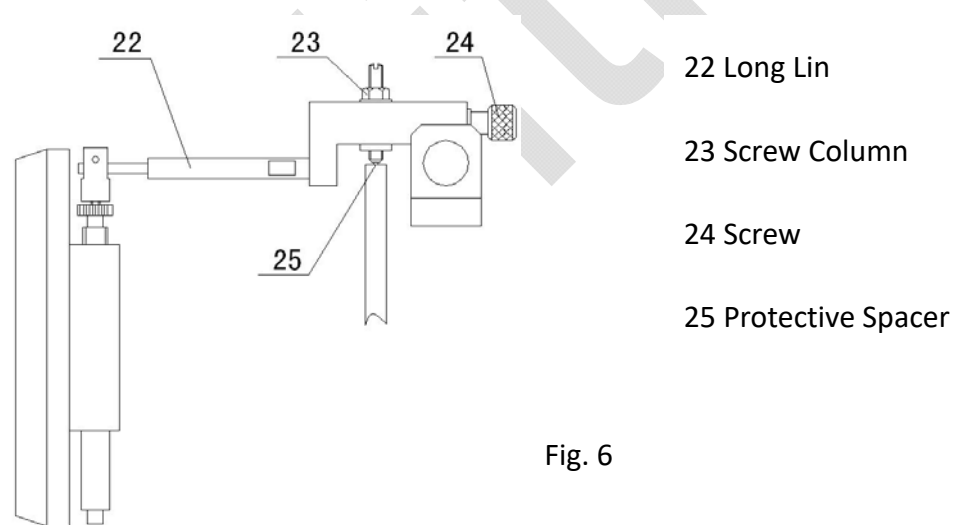

Fig. 6
When the hardness tester is well placed, open the upper cover (10) and the back cover. Unfasten the rubber belt locking the shaft (22) in the instrument body (Fig.6) and draw out the protective spacer (25) and the foamed plastic block under the level (11). And then unfasten off all the cotton belts fixing the movable parts and finally put on the cover to prevent the dust from entering the instrument.
5.3 Adjustment of the Indicated Hardness Values (Fig. 6)